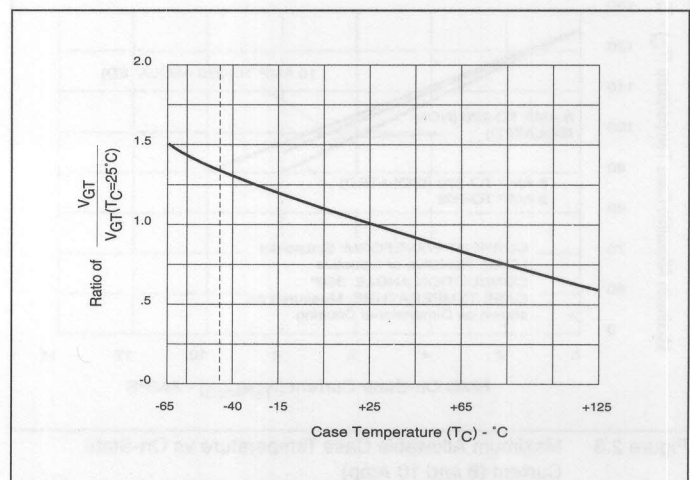

Figure 2.12 Normalized DC Gate Trigger Voltage for All Quadrants vs Case Temperature
- See Figure 2.12 for V_{GT} vs T_C .